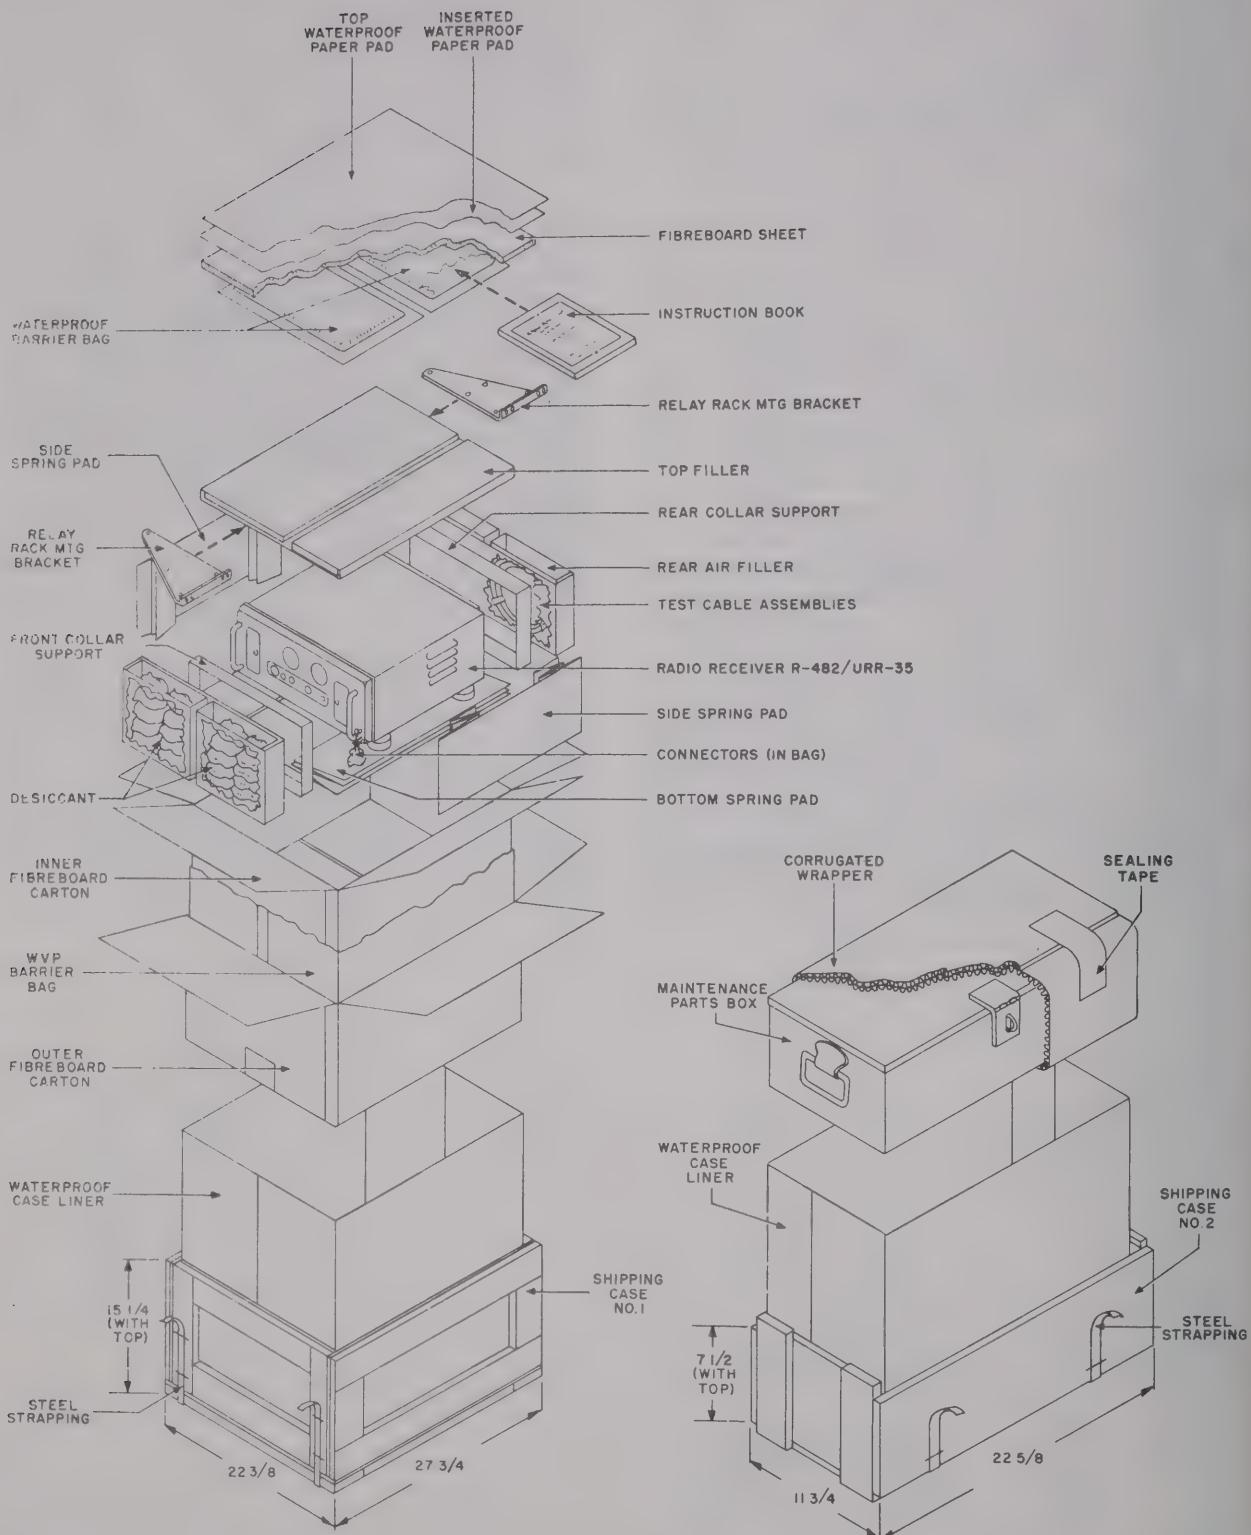

Figure 3-1. Packaging of Radio Receiving Set AN/URR-35
a. GENERAL.—Each complete Radio Receiving Set AN/URR-35 is shipped in two wooden cases. Case No. 1 contains the receiver and its accessories, while the maintenance parts kit is packed in case No. 2. The accessories which are packed in case No. 1 with the receiver are the two test cable assemblies, the set of four connector plugs, the pair of relay-rack mounting brackets and two instruction books; see figure 1-1. The method of packing the equipment is shown in figure 3-1; refer to that illustration while unpacking in accordance with the instructions outlined in the following subparagraphs.
(1) Set up the shipping case as indicated by the markings on the outside and cut the steel strapping.
(2) Using a nail puller, remove the top of the case.